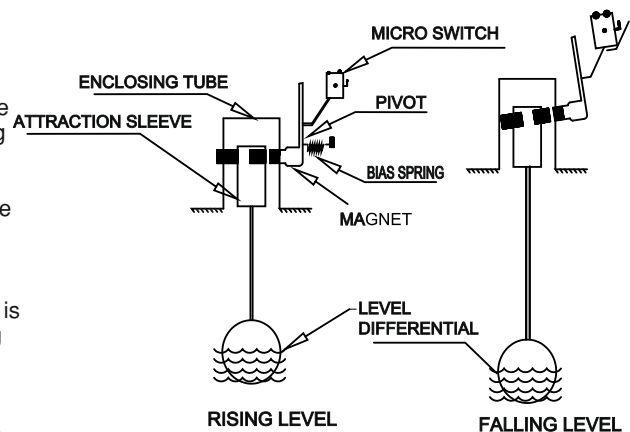

FIGURE 1
a) For Single Switch Mechanism (Series 311) (Refer Fig.1)